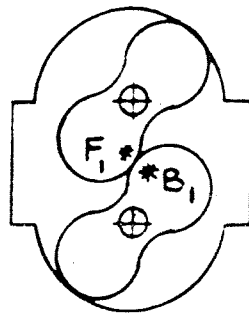

FIGURE 5
4.8.6 For adjustment in timing, rotate impellers to 45° at position 1, Figure 5. If $F_1 - B_1$ clearance is smaller than .012, an addition of shim at the driven gear is required. If $F_1 - B_1$ clearance is larger than .019 a reduction of shim at the driven gear is required. Check the clearance between the impellers at the 45° position in four orientations for a minimum clearance of .012. If impellers continue to knock, check the amount of backlash in the assembled gear set for a maximum permitted amount .004 of an inch.